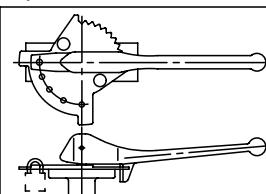

FIG. 1: LEVER + PADLOCK FACILITY
- Various padlock facilities (figure 1)